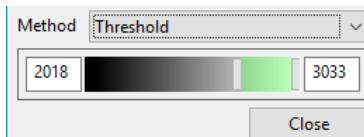

Figure 6.28: Adjust the threshold.
- **Threshold:** This method selects the pixels whose intensity are inside the minimum and maximum threshold (Figure 6.28).